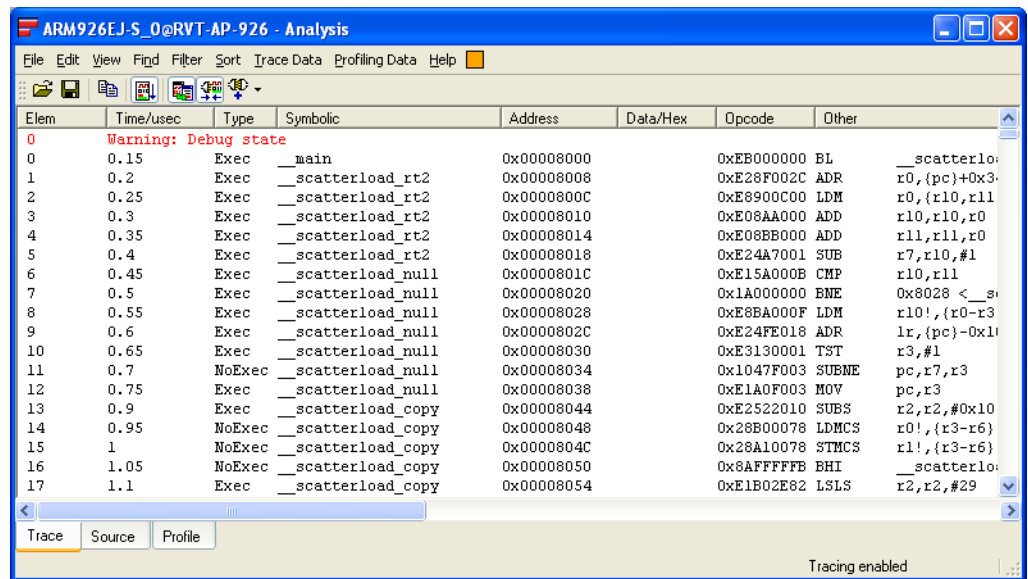

Figure 10-81 Trace captured around a trigger
4. Click **Run** on the Debug toolbar to start execution. The trigger is activated after 200 writes to output_port, and the captured trace is displayed in the **Trace** tab of the Analysis window. Figure 10-81 on page 10-79 shows an example: